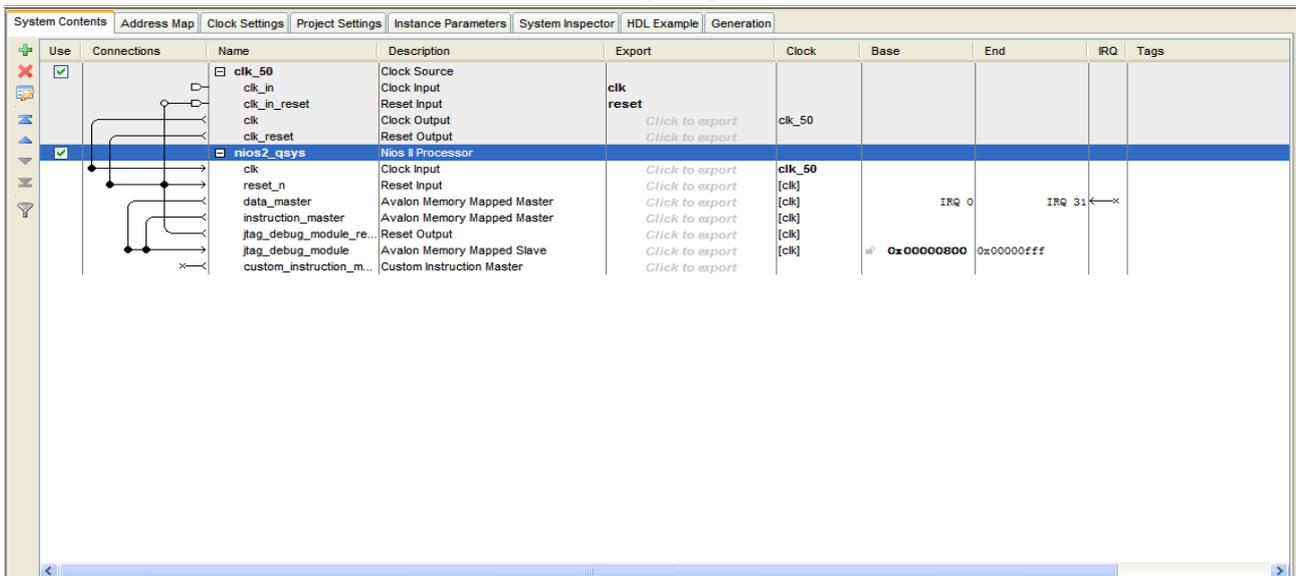

Figure 1-20 Connect the clk and clk_reset
11. Connect the **clk** and **clk_reset** as shown in Figure 1-20. (clicking the hollow dots on the connection line. The dots become solid indicating the ports are connected.)